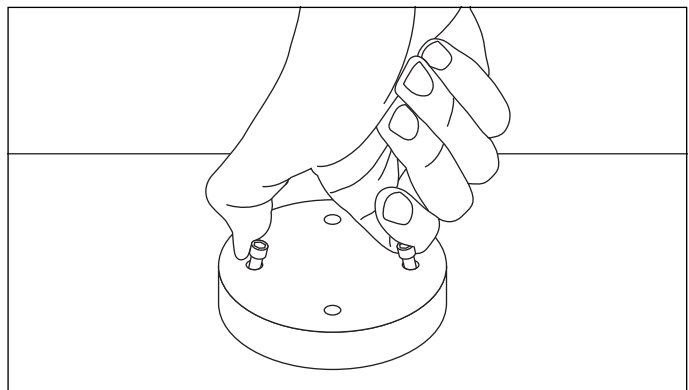

Figure 4.3: Piston cap removal
3. Loosen the piston cap bolts and remove the piston cap as shown in figure 4.3 by pinching two loose bolts together.